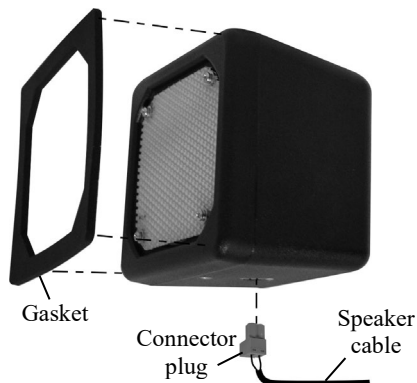

Figure 1. SP10 with gasket and cable connector plug
- Strip approximately 1 inch (25.4 mm) of insulation from the end of the speaker cable, and ¼ inch (6.35 mm) of insulation from each of the two cable wires, but do not tin the wires. Connect the speaker cable wires to the connector plug as shown in Figure 1.
- Insert the connector plug into the connector on the speaker as shown in Figure 1.
- Peel the paper off the self-adhesive gasket, and press the adhesive side of the gasket against the front of the speaker in the position shown in Figure 1.